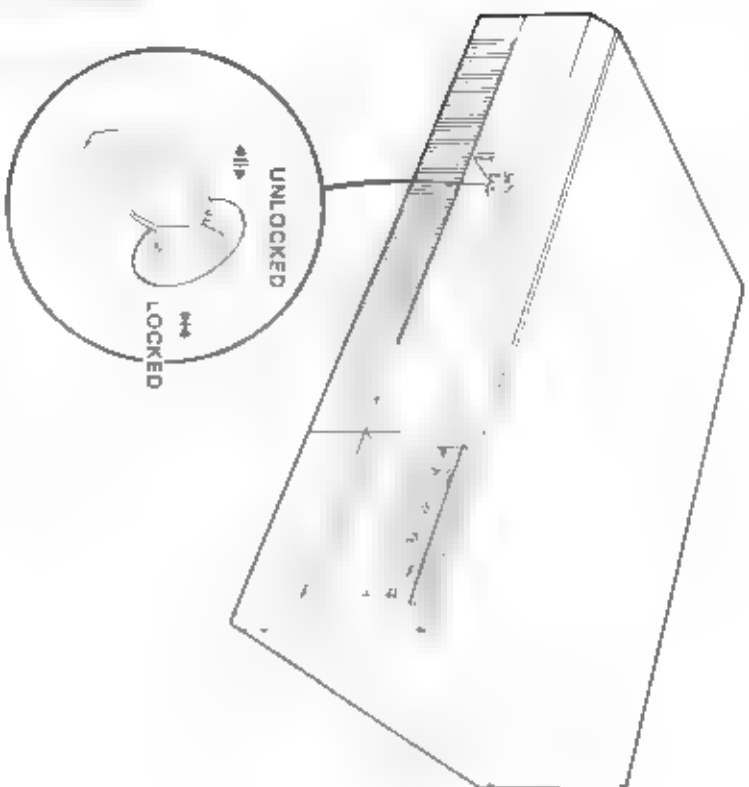

Figure 3-1 System Unit Lock
2. Insert one key in the system unit lock. Make sure the key is in the unlocked position (Figure 3-1).
1. Make sure the system unit lock is in the unlocked position (Figure 3-1)